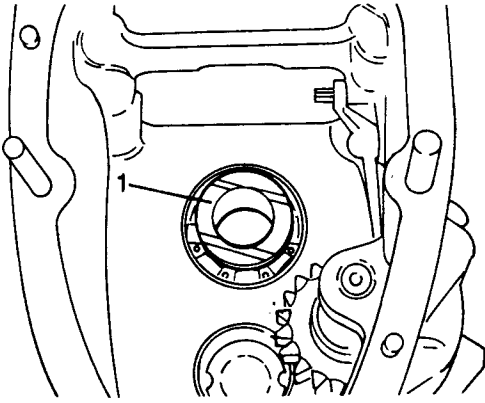

Fig H1.63
- (2) Refer to Fig H1.63. Fit the axial adjusting washer (1) on the bearing, in such a way that the oil grooves face inwards.